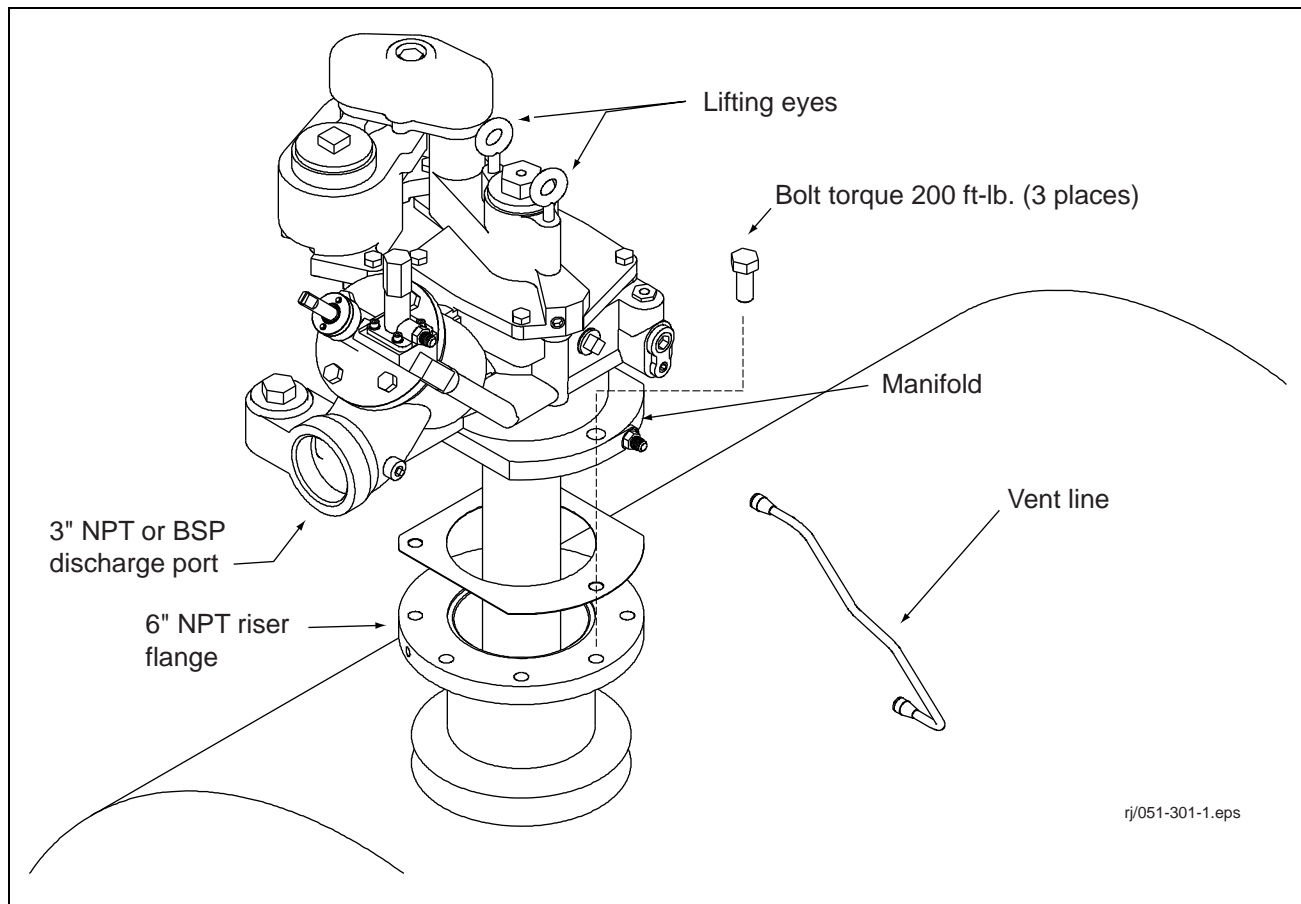

Figure 1. Maxxum® Packer-Manifold Assembly
1. Apply a gasket compound to the bottom surface of the manifold and press the gasket onto the manifold's mating surface so the holes in the gasket and manifold align (reference Figure 1).
1. Remove the metal protective shipping caps from the flare fittings (reference Figure 1).